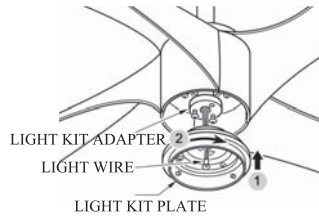

FIG.16
2. Gently pull the wire through light kit plate. Have the key hole over the loosened screws. Turn the light kit plate clockwise, and tighten the previously removed and loosened screws. ( See Fig.16 &17 )